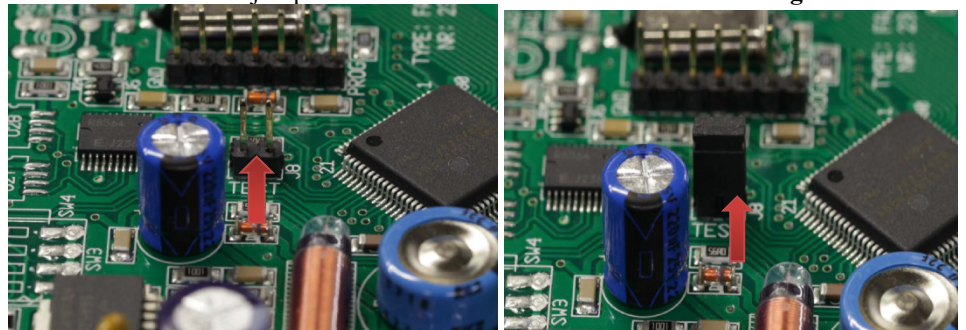

Figure 2
4. Place the test jumper on the test connector on the PCB board. **Fig. 2**